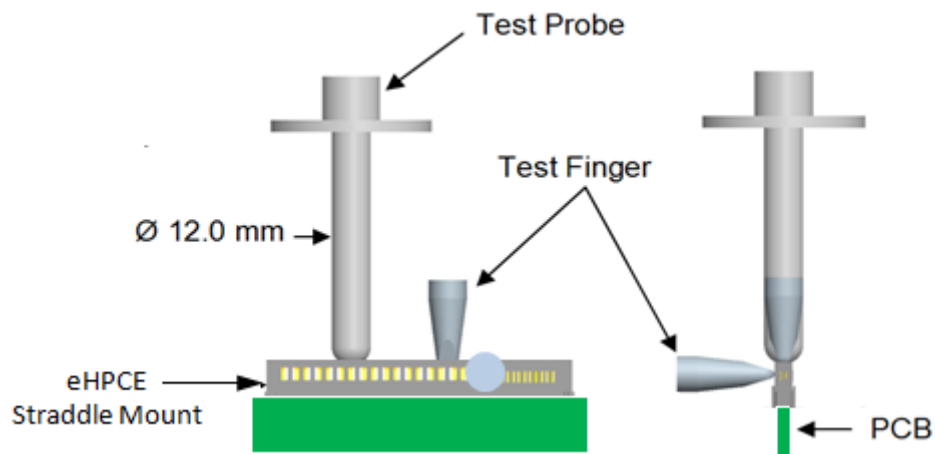

Figure 5
- **Test Finger** (Figure 5)
- **Test Probe** (Figure 5)